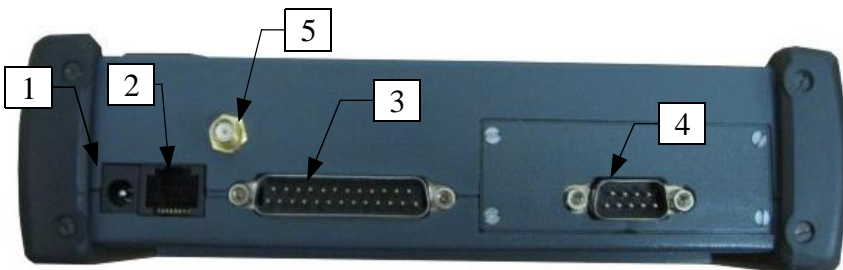

Figure 1.2
Figure 1.2 shows the rear side of the TSPPro and the connectors:
- If the list is longer that can be displayed on a single screen, an arrow will be shown to indicate that fact (see Figure 1.2)
- To return to a previous menu, press the Back icon in the upper right corner of the screen (figure 1.2).